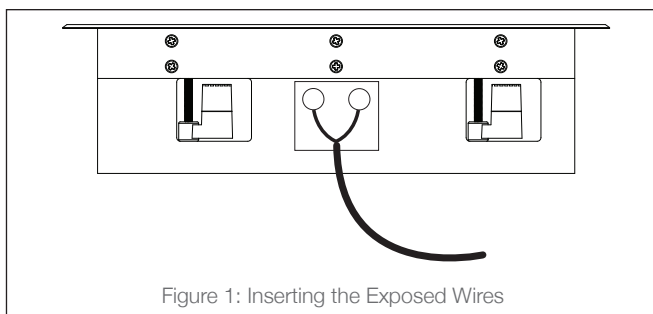

Figure 1: Inserting the Exposed Wires
3. The subwoofer's terminals are spring-loaded. Push the top of each terminal down to open the connector and insert the exposed wires (see Figure 1).